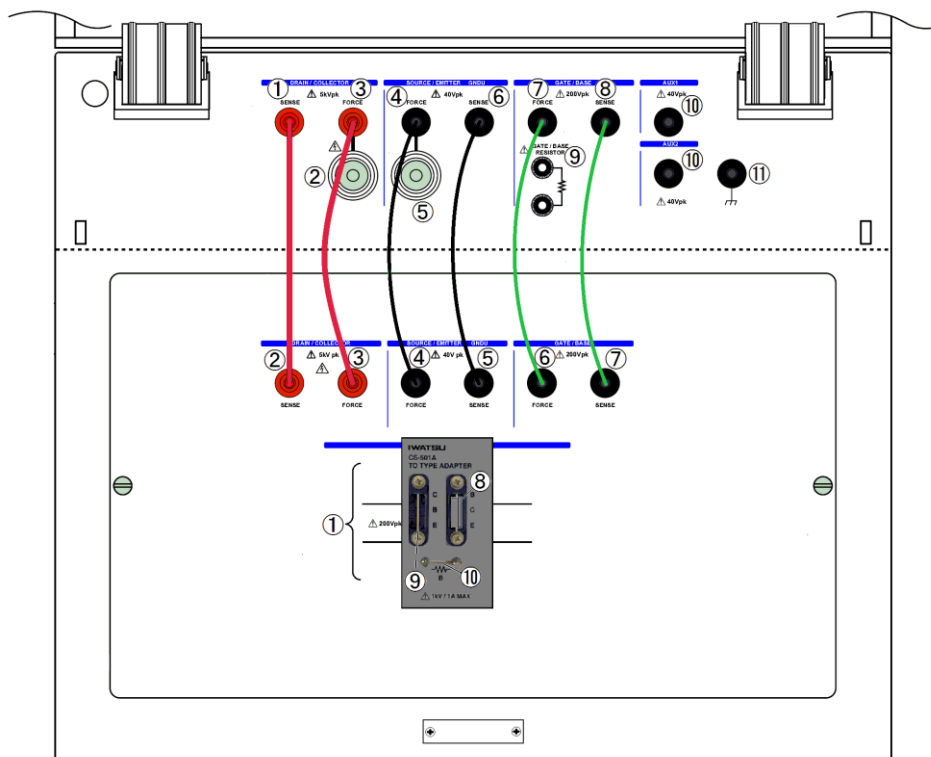

Figure 3.4: Connection diagram inside the Test Fixture
Attach the Test Adapter CS-501A to the Patch Panel CS-520 as shown in Figure 3.4, and insert the DUT ⑧ into the socket according to the pin arrangement.